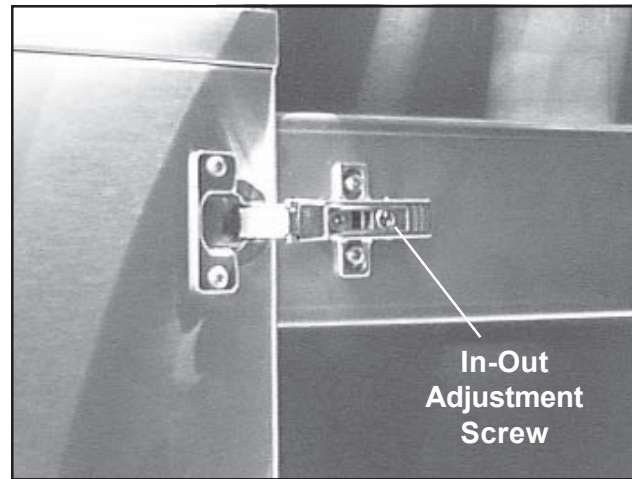

Figure 12. Door In-Out Adjustment Screw
4. With a Phillips screwdriver, turn the in-out adjustment screw (Figure 12) clockwise to move the door in; counterclockwise to move the door out.